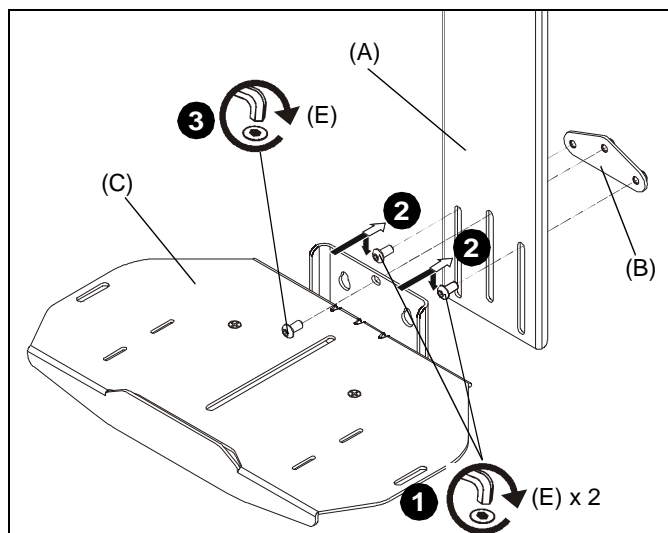

Figure 1
1. Loosely install two 1/4-20 x 1/2" button head cap screws (E) through outside slots of stackable bracket (A) and into outside holes of adapter plate (B). (See Figure 1)
2. Hang shelf (C) onto two screws installed in Step 1. (See Figure 1)
3. Use one 1/4-20 x 1/2" button head cap screw (E) to secure stackable bracket (A) to shelf (C). (See Figure 1)
4. Tighten all three screws (E) to ensure shelf (C) is securely attached to stackable bracket (A).